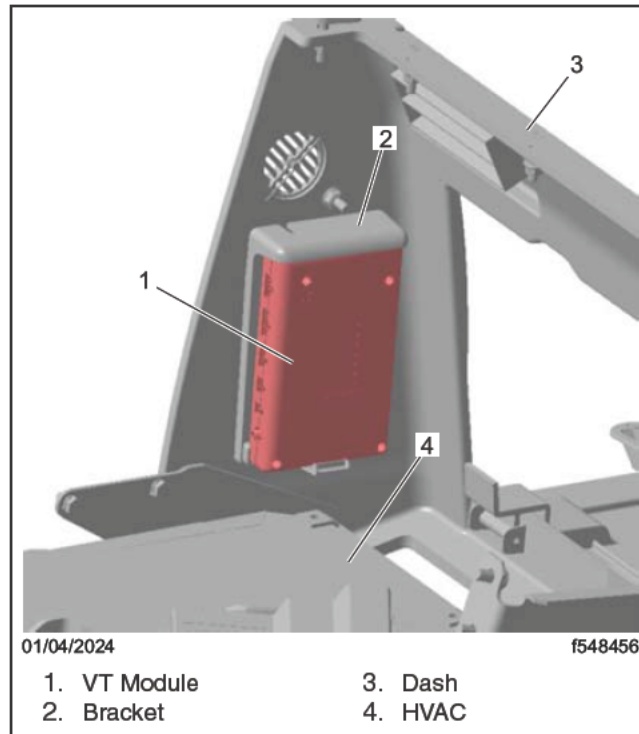
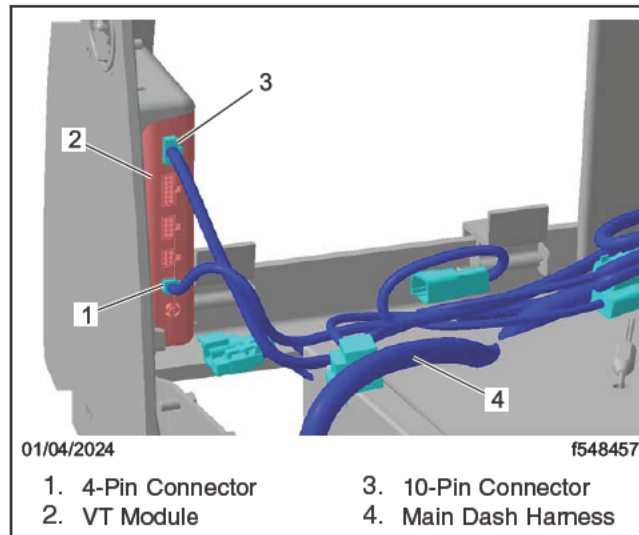

Fig. 11, VT Module Installation
Fig. 12, Connecting the Harness Connectors to the VT Module
5. Install the VT module on the bracket accessed through the opening created by removing the PDM3. See Fig. 11 and Fig. 12.
6. Locate the 10-pin and 4-pin electrical connectors, and attach them to the VT module, as shown in Fig. 12.